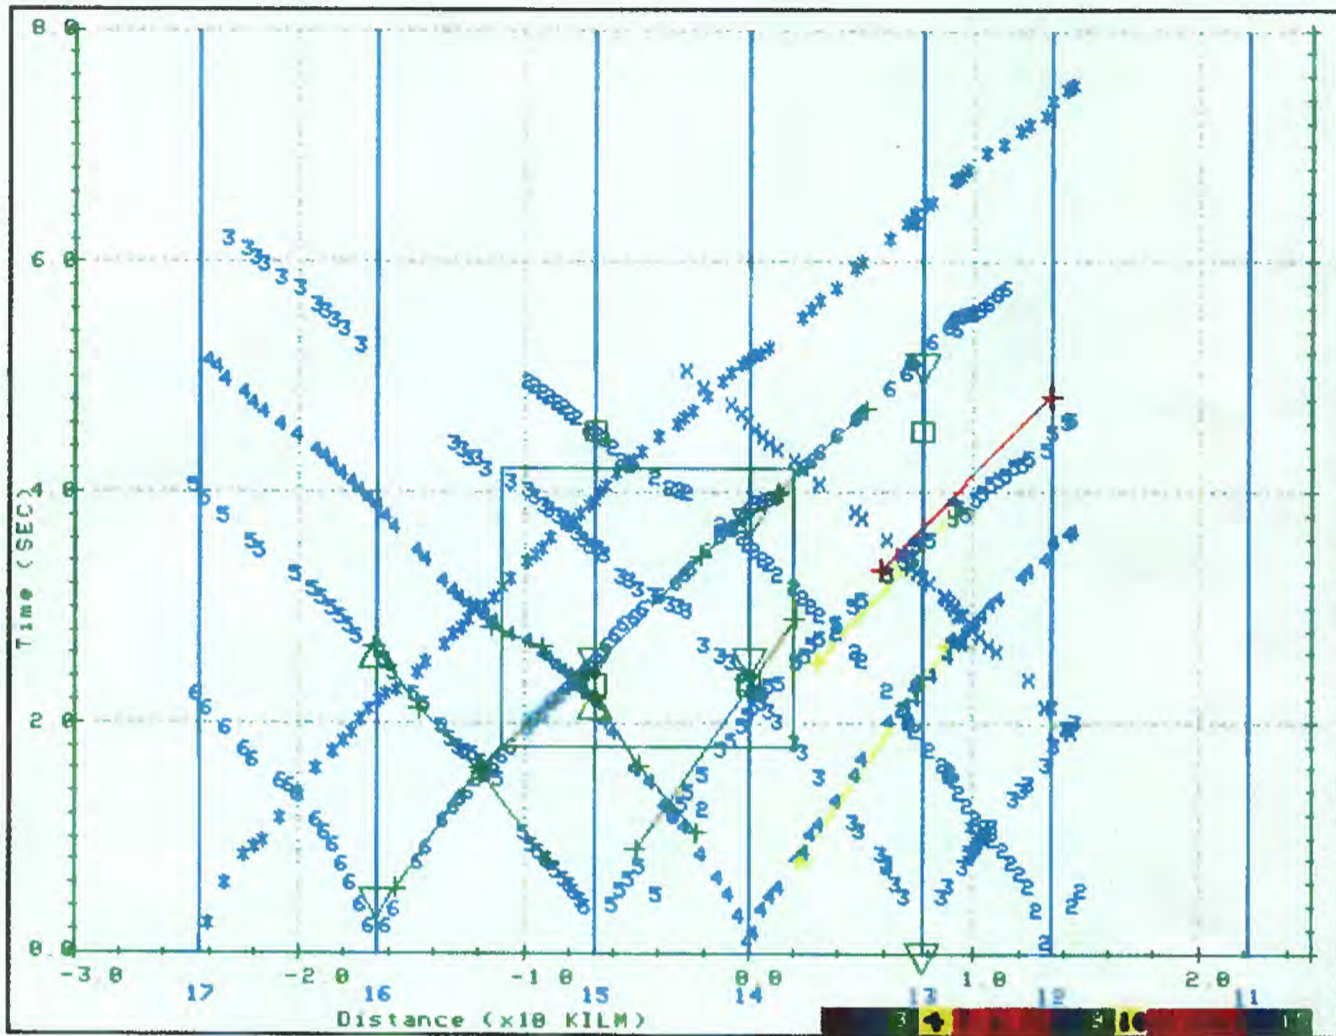

Figure 4.1: Sample of TURBOSEIS screen during modeling.
Figure 4.1 on page 13 is a sample of what the terminal screen might look like during a modeling session. We define the data window to be the region between the distance-time axes. The vertical blue lines in the data window mark the position of a shot point, the light blue numbers directly below the distance axis are the corresponding shot point numbers (from the OTX file). The light blue numbers appearing in the data window are the locations of the digitized first arrivals for each shot point. The numbers are "folded" into single digits. As an example, shot point number "15" appears below the distance axis as "15", but, the first arrivals are drawn as the number "5" within the data window. Two other notations about numbers in the data window are, sevens (7) are printed as a "*", and ones (1) are printed as an "X". The other lines and symbols represent other components of the model.
Section 5.1.3 on page 27 shows the interactive dialogue in setting up Figure 4.1. The units to describe the data were entered in "METR" (for meters) and "MSEC" (for milliseconds), the resulting display has units of kilometers and seconds. TURBOSEIS automatically compresses data ranges when possible. When TURBOSEIS requires entry of a number, you usually enter the number in the units used when the screen was originally set up.